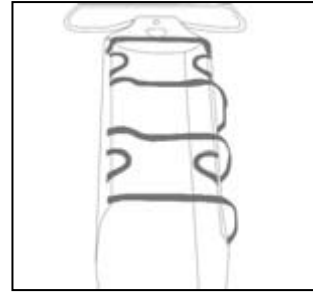

Fig. 6
- Pull straps out from under the device and fasten to buckles (fig. 6).